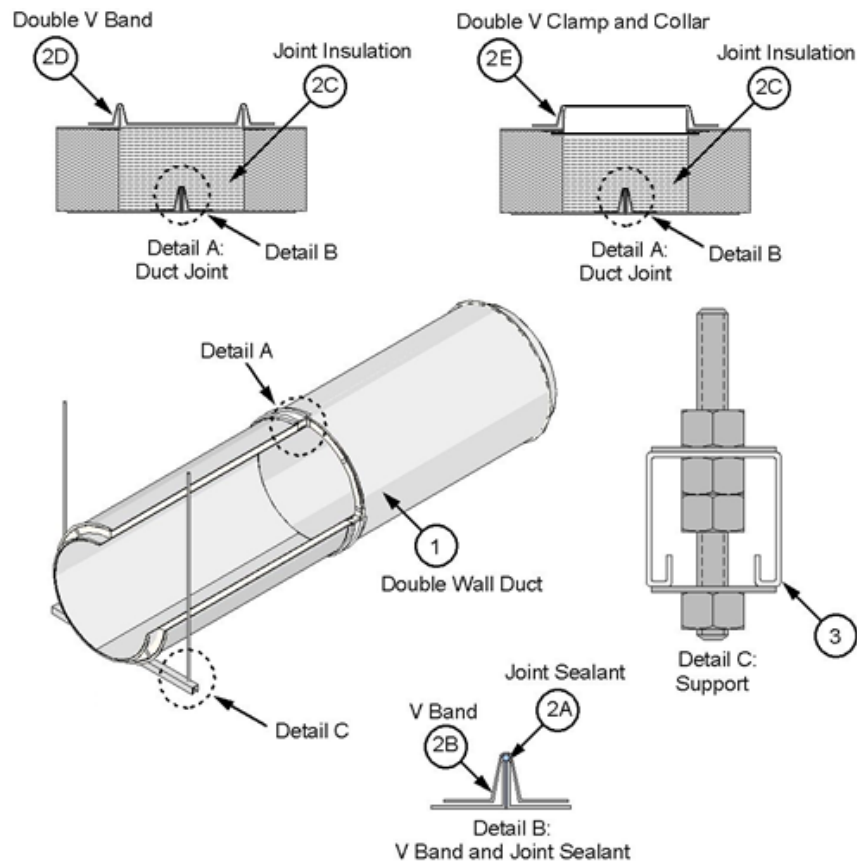

Figure 1. Double Wall Duct and Horizontal Support
- B. **V BAND** – Use the supplied V band (see Figure 1). Place the loose V band, filled with joint sealant (Item 2A), over one of the inner duct flanges. Join to the other inner duct flange with the continuous bead of joint sealant (Item 2A) and rotate slightly to ensure complete coverage of joint sealant (Item 2A) on flanges. Ensure that the flanges are located within the V band and that the V band hardware is not at the bottom side of a horizontal duct. Tap the V band while tightening the integral 1/4-20 hardware to ensure flanges are aligned and pulled together. Tighten to 40-60 in.lbs.
- D. **DOUBLE V BAND** – Use the supplied double V band (see Figure 1) for grease duct diameters ≤ 24 in. Place double V band with the grease duct outer shell flanges seated in the V band; tighten integral 1/4-20 hardware to 40-60 in.lbs.
- E. **DOUBLE V CLAMP AND COLLAR** – Use the supplied double V clamp and collar (see Figure 1) for grease duct diameters > 24 in. Use the sheet metal collar to retain the joint insulation; overlap collar ends and fasten together with min. two min. size #6 sheet metal screws. Place double V clamp with the grease duct outer shell flanges seated within the clamp recess; tighten integral 1/4-20 hardware to 40-60 in.lbs.
- A. **HORIZONTAL SUPPORTS** – Support the pre-fabricated grease duct (Item 1) using min. 12 GA, 1-5/8 in. x 1-5/8 in. Unistrut® channel or 2 in. x 2 in. x 1/4 in. steel angle as the supporting cross-member and two min. 1/2 in. diameter, threaded steel rods connected using Grade 5 hex nuts and 1/2 in. hardened washers (see Figure 1, Detail C). For grease duct diameters > 24 in., use supplied 12 GA steel saddles fastened to the Unistrut® channels with supplied 5/16-18 hardware. Connect the threaded steel rods to the bottom of the floor assembly using an attachment method designed to carry the weight of the pre-fabricated grease duct (Item 1)